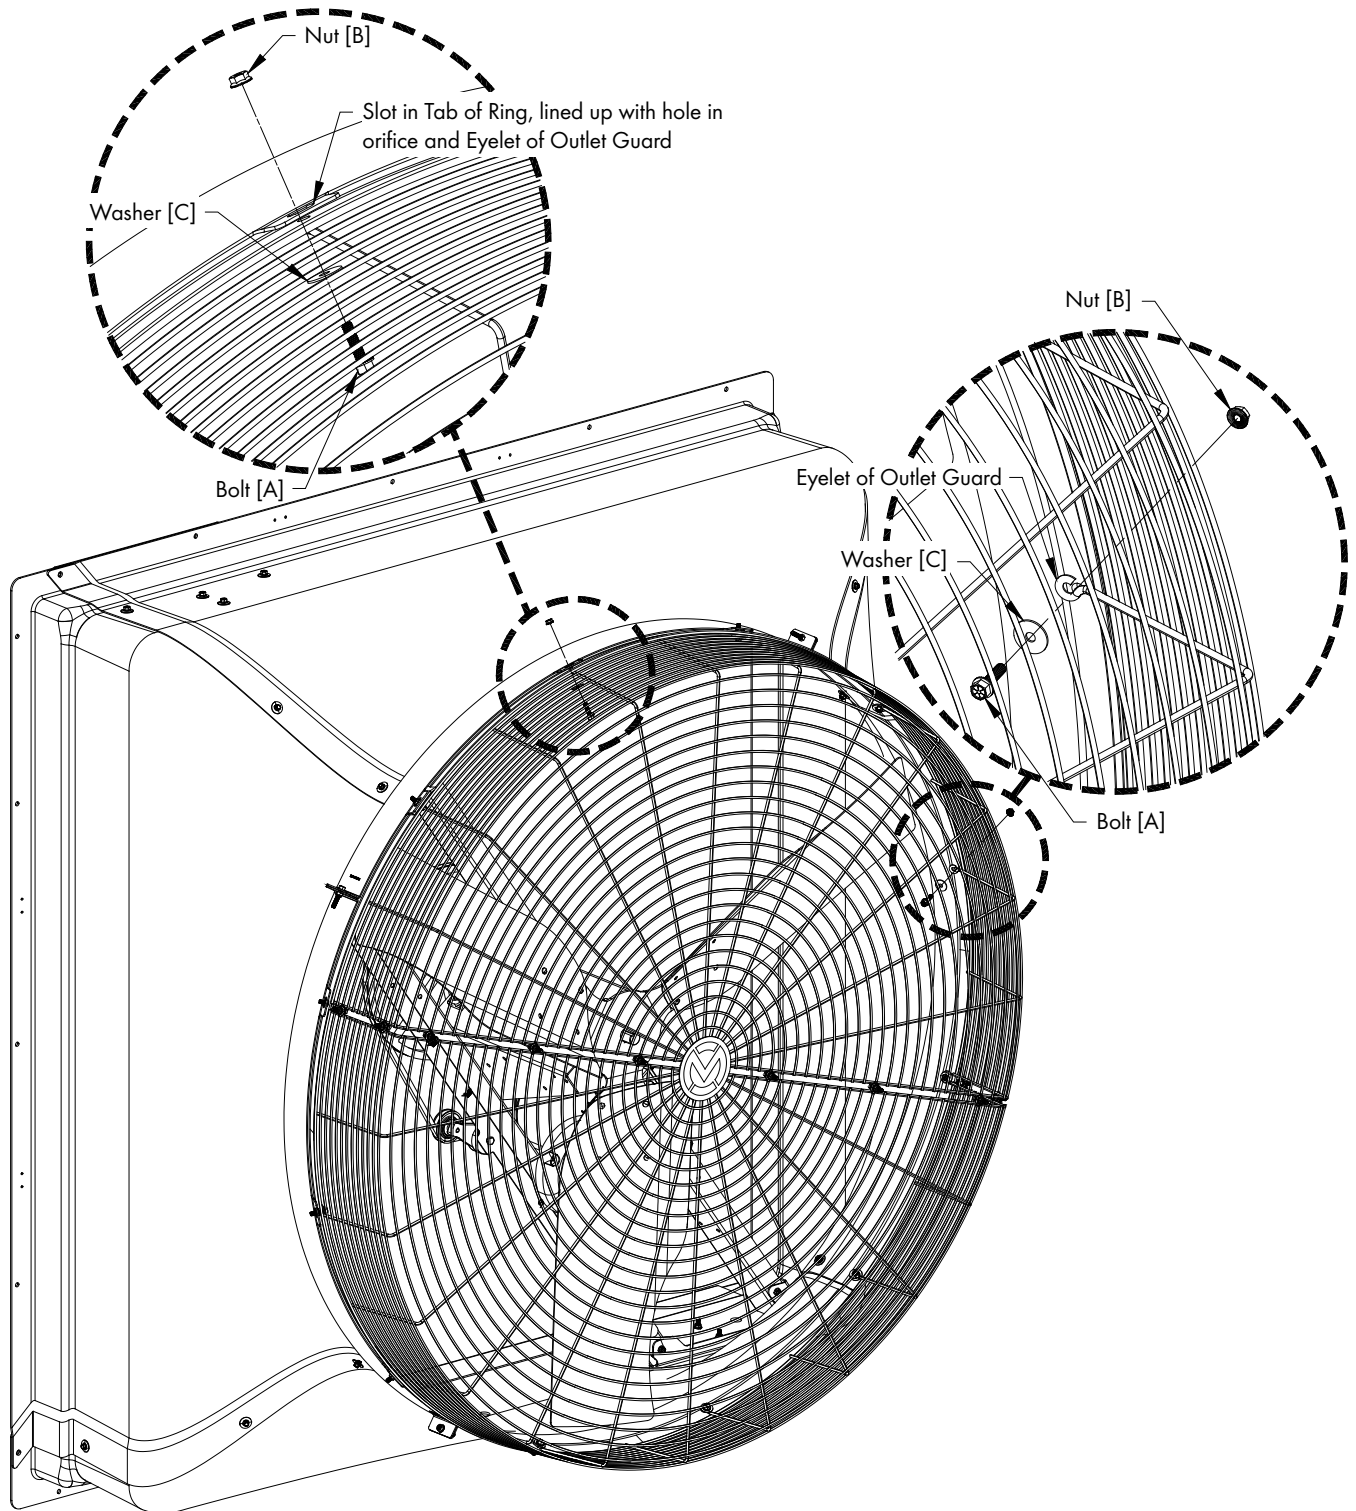

Figure 4
Attach the Outlet Basket Guard to the orifice of the Atlas 74, using (12) Bolts [A], Washers [C] and Nuts [B]. The Bolt Head will be on the inside of the orifice and the bolt will go through the Washer, Eyelet, Hole in orifice and Slot in Ring Tab and be secured with Nut on the outside of the ring tab. See Figure 4. If the last Ring Bolt wasn't tightened before, torque it to 125 in-lbs [14 Nm].